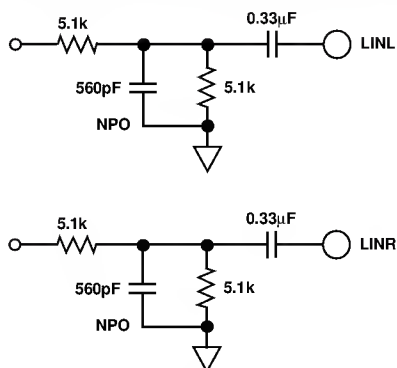
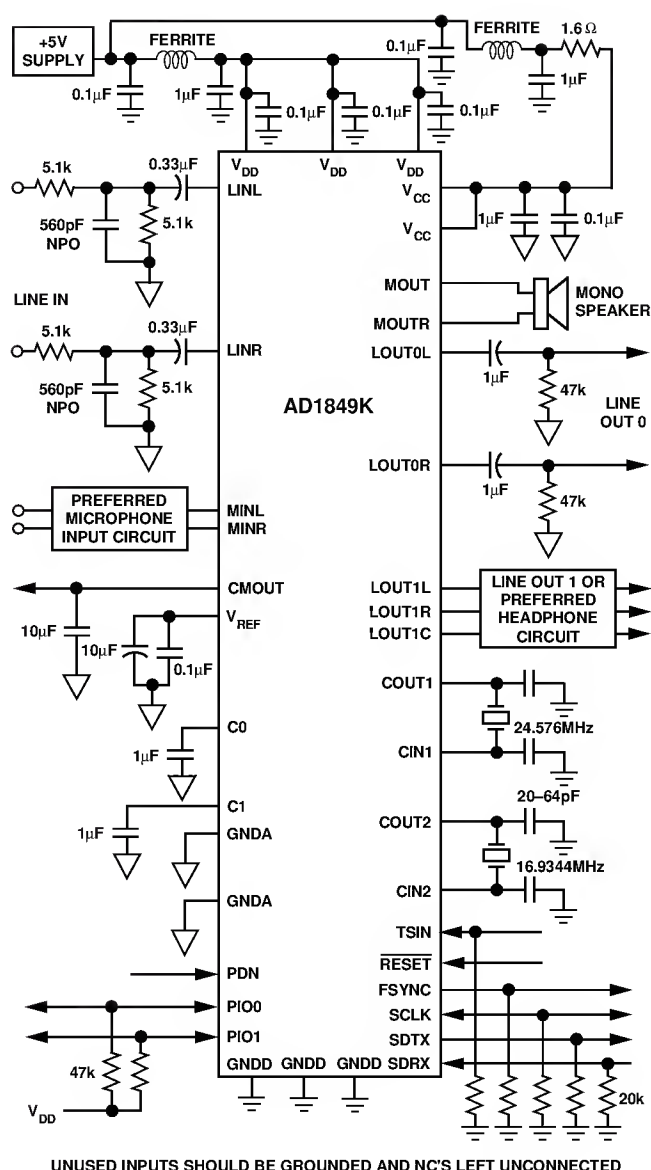

Figure 11. AD1849K 2 V rms Line-Level Input Circuit
Figure 21. Typical Connection Diagram
The AD1849K Stereo Codec has been designed to require a minimum of external circuitry. The recommended circuits are shown in Figures 11 through 20 and summarized in Figure 21. Analog Devices estimates that the total cost of all the components shown in these Figures, including crystals, to be less than \$5 in 10,000 piece quantities.
A circuit for 2 V rms line-level inputs is shown in Figure 11. Note that this is approximately a divide-by-two resistive divider.
The two PIO pins must be pulled HI, as they have open drain outputs. Analog Devices also recommends pull-down resistors for SCLK, FSYNC, SDTX, SDRX, and TSIN to provide margin against system noise. CLKIN, CIN1, and CIN2, if not used, should be grounded. A typical connection diagram is shown in Figure 21, which serves to summarize the preceding application circuits.
- The AD1849K requires an external passive antialias filter as shown in Figure 11. In contrast, the recommended input circuit for the CS4215 is a single-pole active filter requiring a dual op amp. Though overkill for the AD1849K, this input circuit will work with the AD1849K as well.